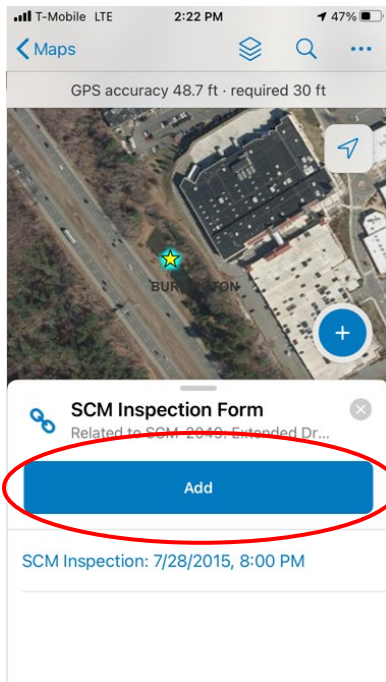

Figure 58
2. All previous inspections for that asset will be listed (if any). Click "Add" to create a new inspection record (Figure 58).